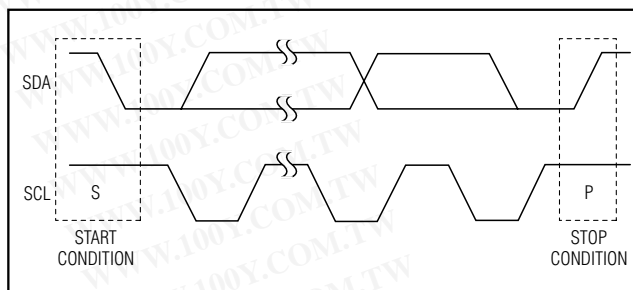
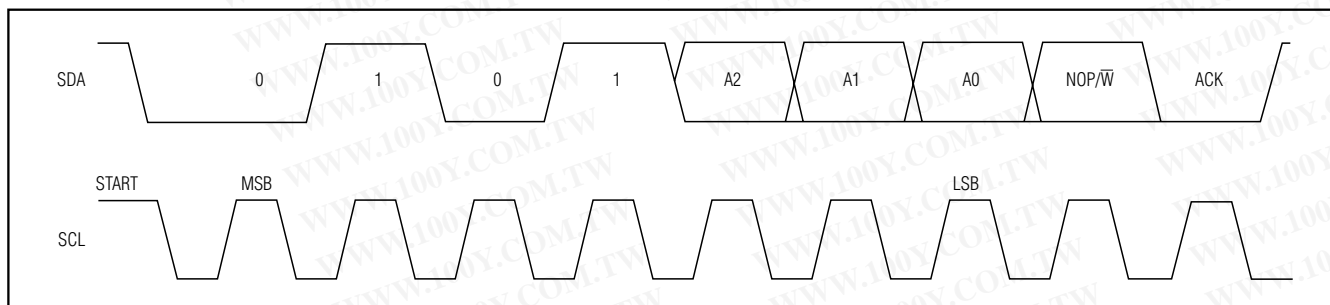

Figure 3. Start and Stop Conditions
Figure 4. Slave Address
Each transmission consists of a START (S) condition (Figure 3) sent by a master, followed by the MAX5477/MAX5478/MAX5479 7-bit slave address plus the NOP/ $\bar{W}$  bit (Figure 4), 1 command byte and 1 data byte, and finally a STOP (P) condition (Figure 3).
communicating with the slave. The bus is then free for another transmission (Figure 3).
The MAX5477/MAX5478/MAX5479 have a 7-bit-long slave address (Figure 4). The 8th bit following the 7-bit slave address is the NOP/ $\bar{W}$  bit. Set the NOP/ $\bar{W}$  bit low for a write command and high for a no-operation command.